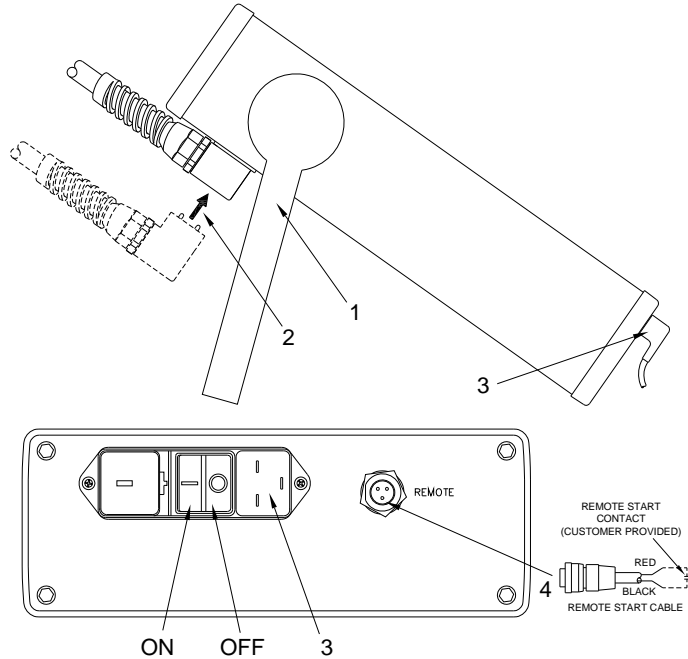

Figure 5
Ensure that Handle (1) is rotated into a position that will support the power supply and allow the display to be accessed easily (Figure 5). Place the unit on a clean even surface close to your capping process.
To start the unit from a remote location, refer to SECTION 3 – PRINCIPLES OF OPERATION; REMOTE OPERATIONS, the Remote Start Cable should be plugged into the REMOTE connector (Figure 5) on the rear of the unit (4). Insert the cable